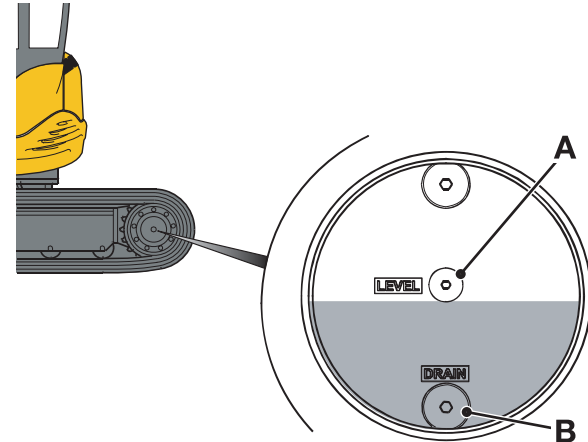

Fig 96.
⇒ Fig 96. (□ 256).
- 1 Position the machine on firm level ground. Ensure that the gearbox plugs **A** and **B** are positioned as shown. Stop the engine and remove starter key. ⇒ Fig 96. \(□ 256\).